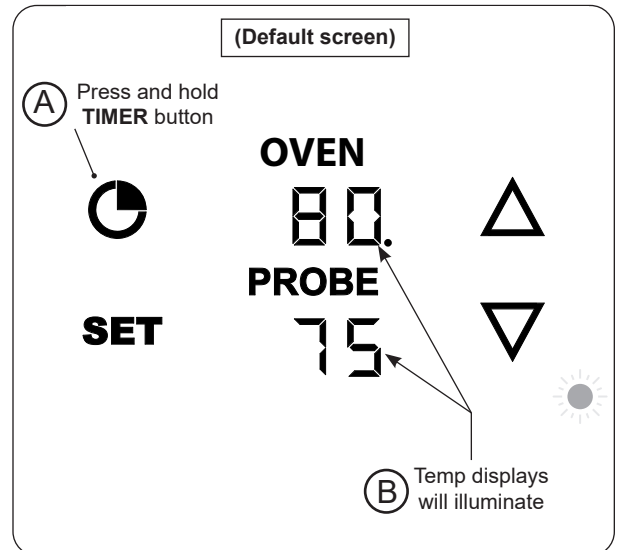

Fig. 38-1 Turn on thermometer/thermostat
3. Press and hold the **TIMER** button (Fig. 38-1, A) until the remainder of the displays illuminate (Fig. 38-1, B). This is the “**default screen**”. The default screen displays your temperatures. The top display is the OVEN temperature, and the bottom display is the meat probe temperature (if plugged in).